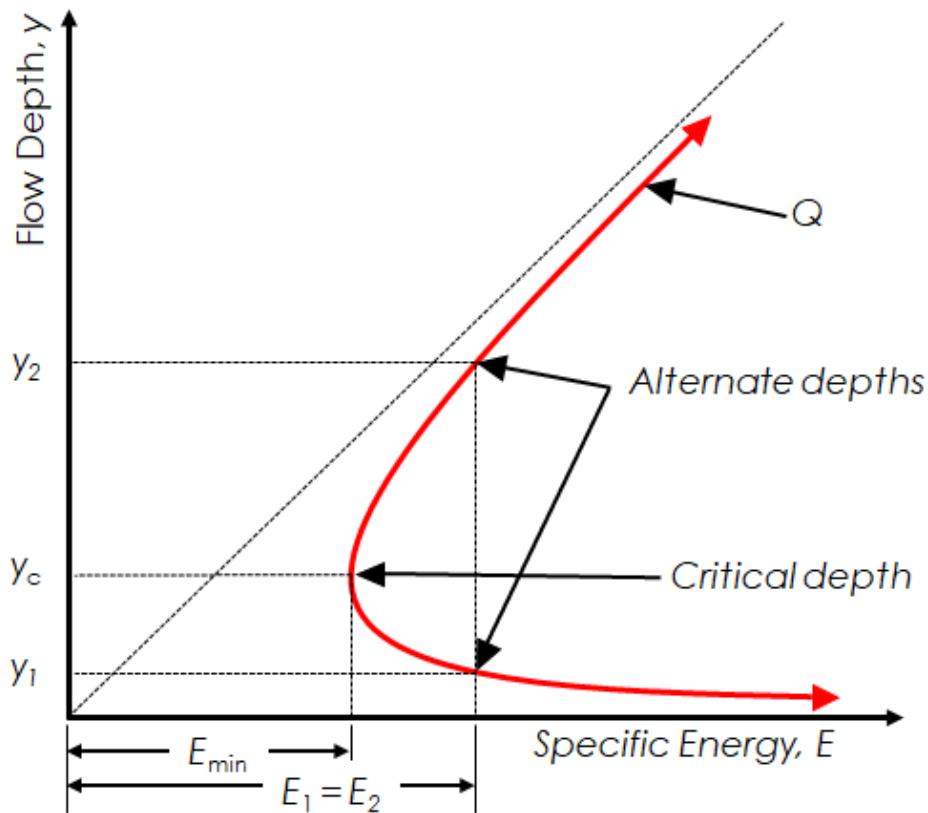

Fig OC6.1 Specific Energy curve
2. How well did your specific energy curve match the theoretical curve in Figure OC6.1? How would you describe or explain the differences?